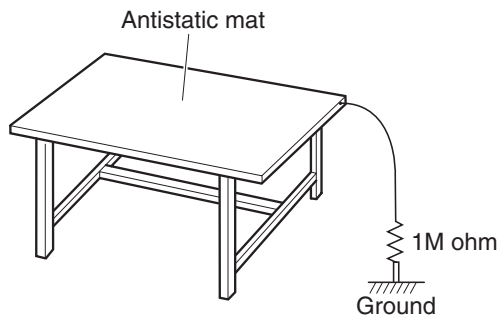

Fig. 1-2-1 Grounding Work Bench
### (1) Grounding work bench (Fig. 1-2-1)